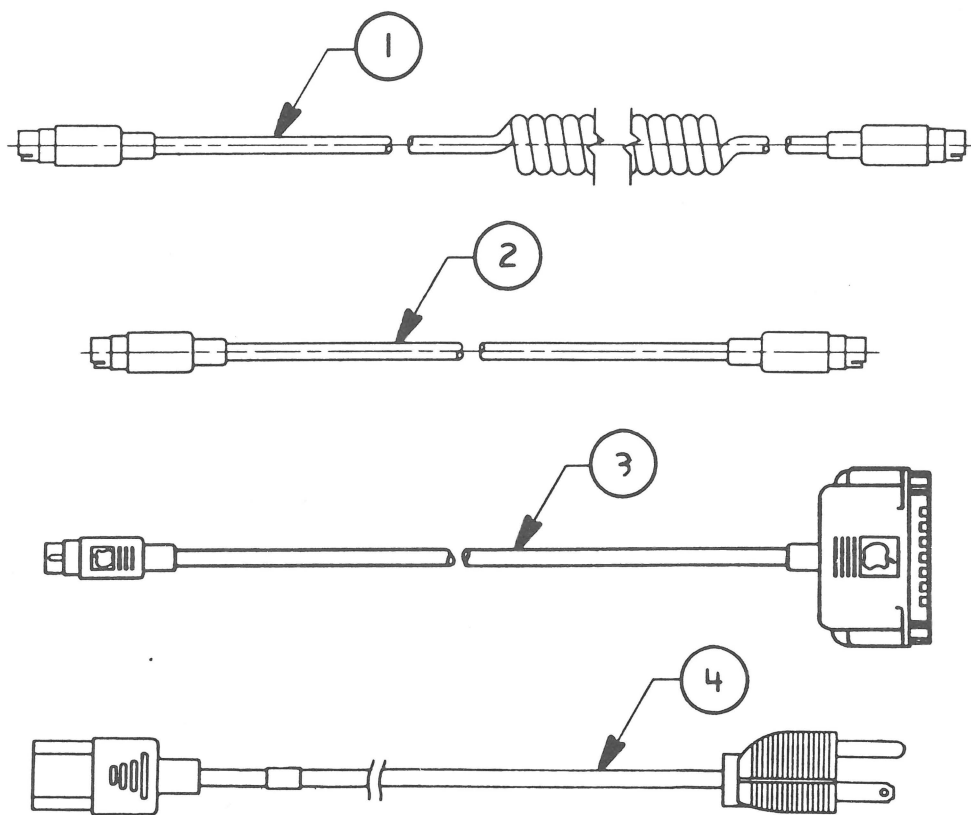

FIGURE 5
□ **APPLE IIgs – CABLES (Figure 5)**